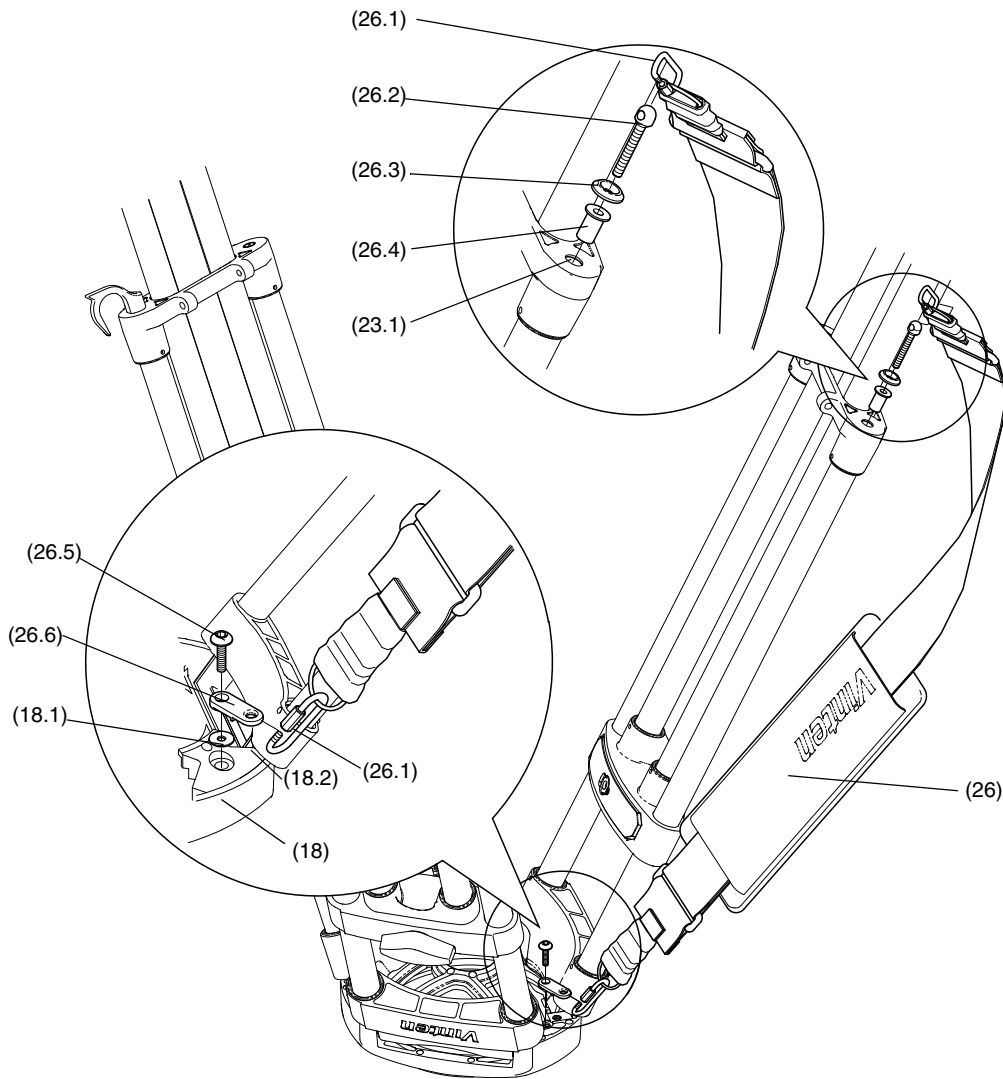

Fig. 6 Carrying strap
A carrying strap (26) is available as an optional accessory and is installed as follows (Fig. 6):